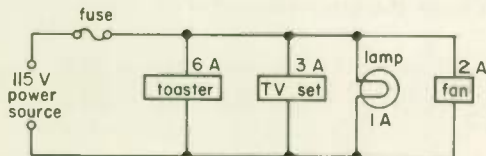

Fig. 4
12. The household appliances of Fig. 4 are connected in (a)(*series*)